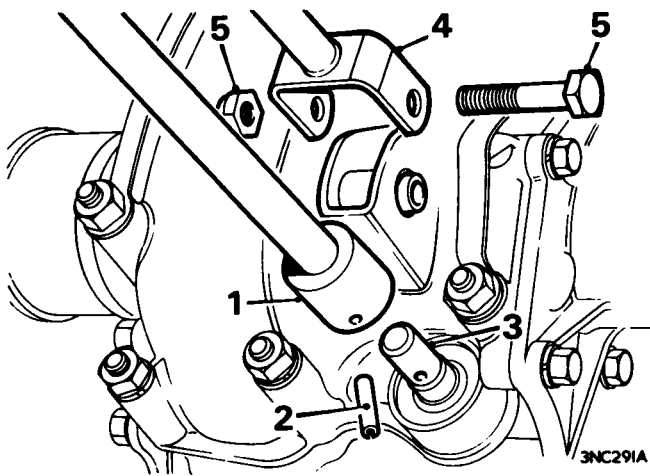

Fig. F.30
3. Drift out roll pin securing the gear change rod to the selector shaft, see Fig. F.30.
4. Remove the nut and bolt securing the steady rod fork to the final drive casing, see Fig. F.30.